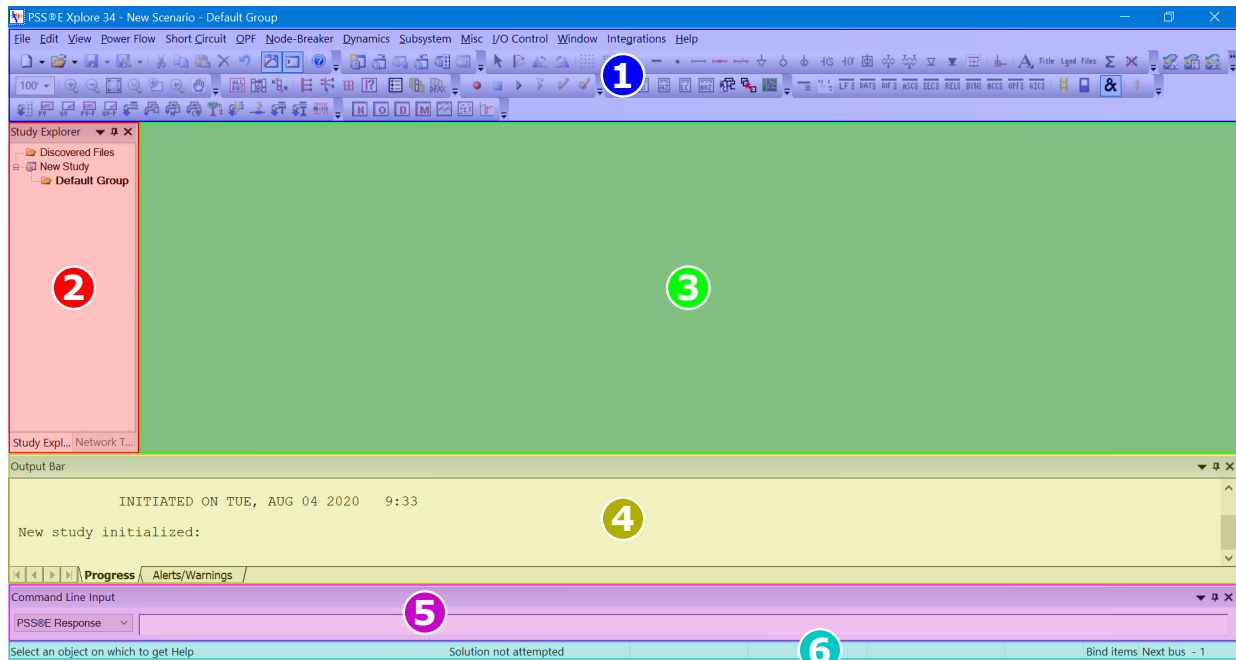

Figure 1: Key areas of the GUI
When we open PSS/E we are greeted by the GUI. In Fig. 1 below the key areas of the GUI are highlighted.
**5.1.1** In Table 1 there are brief descriptions of the functions of these key areas. Can you fill out the last column of Table 1 by referring to Fig 1?